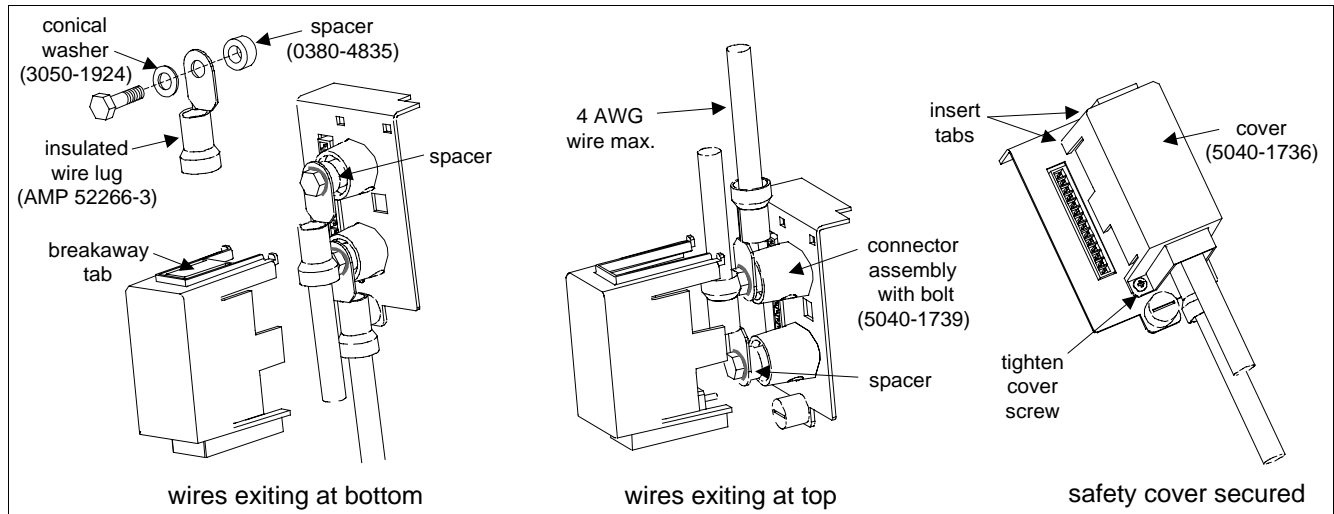

Figure 3-6b. 8mm Screw Terminal Connectors
Two 8mm-diameter bolts (+ and -) are provided on each module for connecting the input wires (see figure 3-6b). Connections are made as follows:
3. Attach the wire lugs to the connector. Place the conical washer *between* the bolt and the wire lug (refer to the exploded view in the upper left corner of figure 3-6b). The wires can exit either out of the top or out of the bottom. Place the supplied spacer *under* the appropriate wire lug to prevent interference between the wires. If the wires exit out of the top, place the spacer on the bottom terminal. If the wires exit out of the bottom, place the spacer on the top terminal.